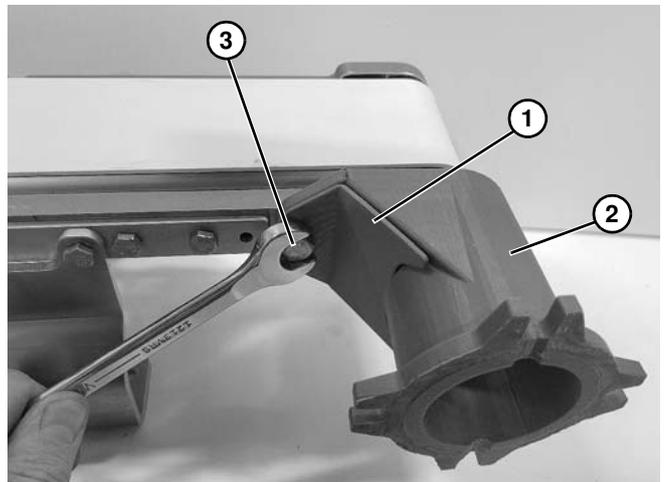

Figure 13
4. Attach angle guard (Figure 13, item 1) to mounting bracket (Figure 13, item 2) with screw (Figure 13, item 3).